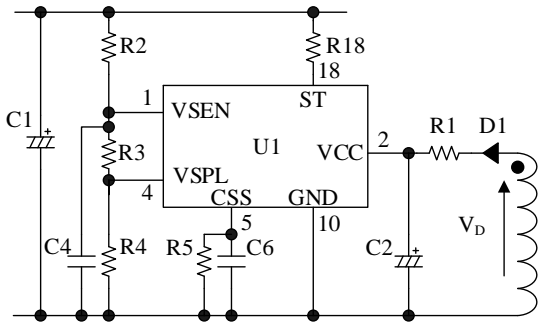

Figure 8-11. VCC pin peripheral circuit
Figure 8-11 shows the VCC pin peripheral circuit.
During the IC operation, the rectified voltage from the auxiliary winding voltage,  $V_D$ , of Figure 8-11 is a power source to the VCC pin.
- The value of C2 in Figure 8-11 is increased and/or the value of R1 is reduced.